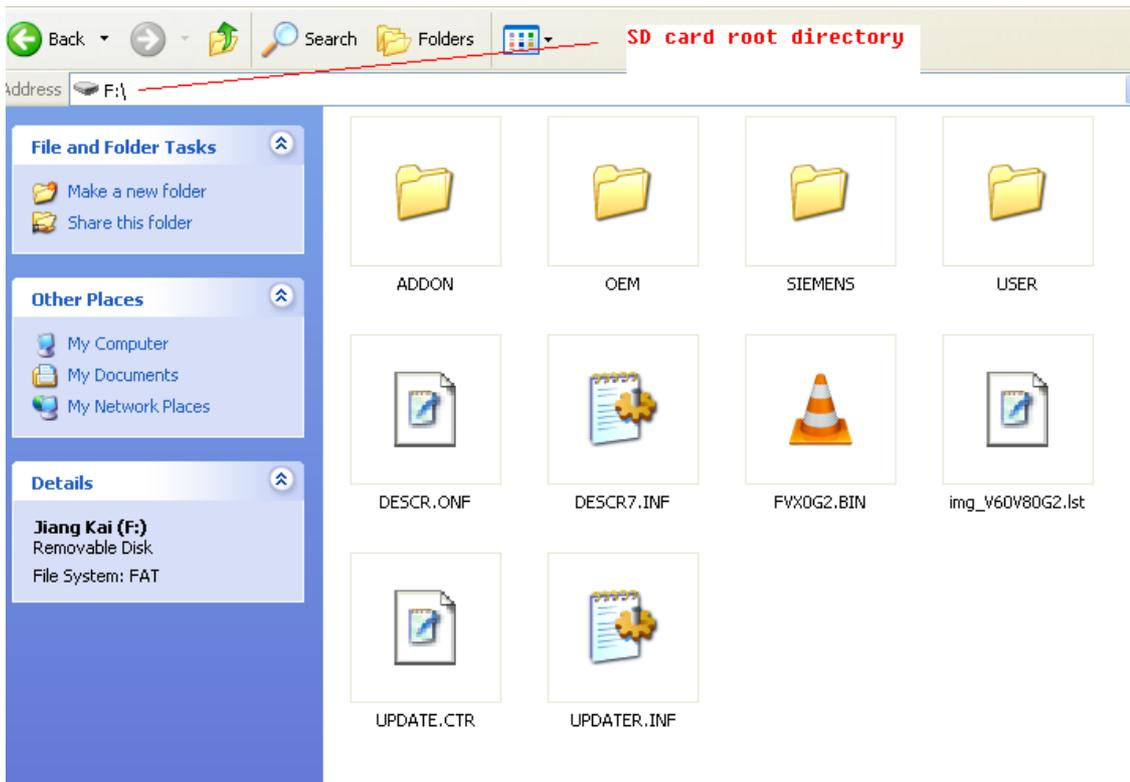

Figure 2 V90 firmware files in SD card root directory
- Copy all the files to the **root** directory of the SD card as figure 2